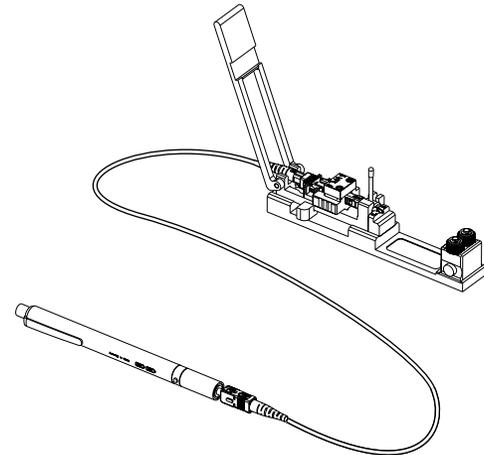

Figure 5
- b) Route the other end of the jumper through the open area of the crimp handle of the UniCam installation tool and plug the connector into the CTS coupler and its UniCam connector (Figure 5).